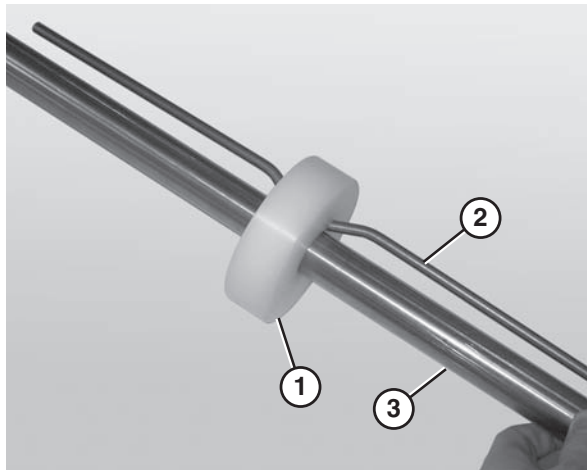

Figure 77
1. Place the idler puck (**Figure 77, item 1**) at the center of the bent retaining bar (**Figure 77, item 2**).
2. Slide the idler puck onto the idler shaft (**Figure 77, item 3**). Make sure to center the idler puck.